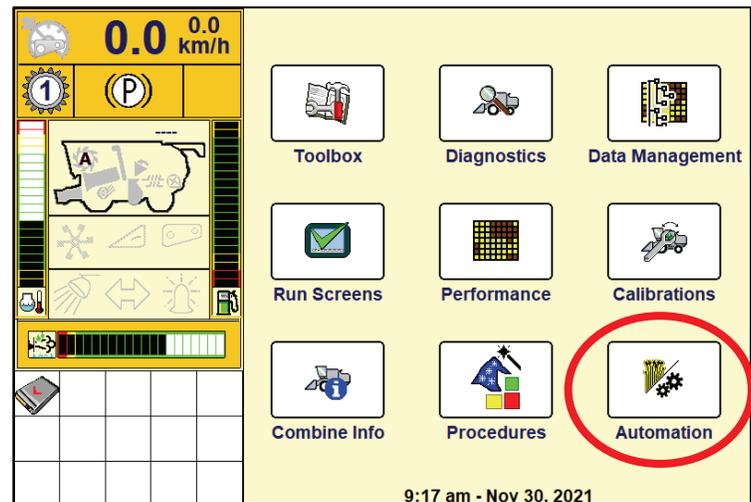

Figure 23.3
2. From the Home Screen / Main Menu select Automation (see figure 23.3).